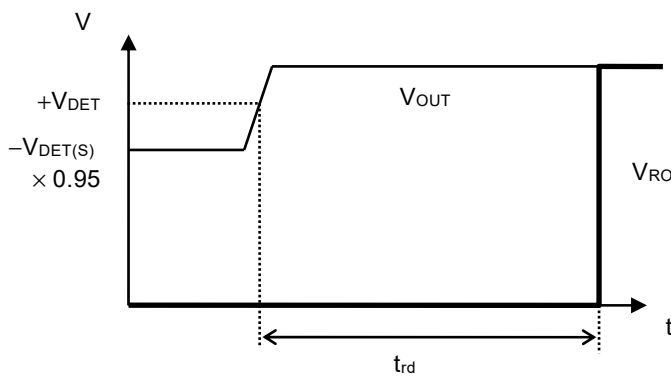

Figure 5 Release Delay Time
- *3. The time from when V_{OUT} exceeds +V_{DET} to when the RO pin output inverts (Refer to **Figure 5**). This value changes according to the release delay time and monitoring time adjustment capacitor (C_{DLY}).